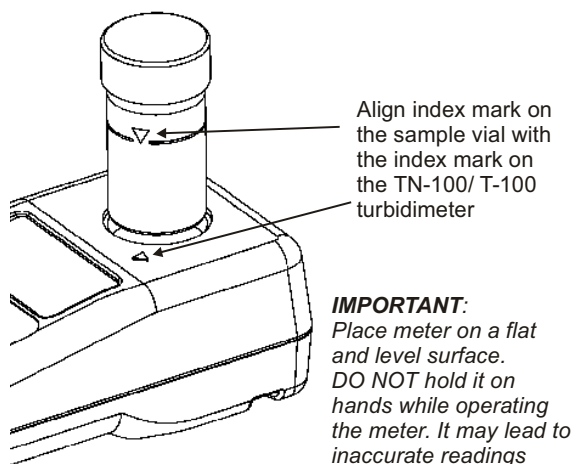

Figure 10: Align sample vial's mark with meter's index mark
3. Insert the CAL 1 standard (800 NTU) into the sample well, aligning the mark on the vial with the mark on the meter. See Figure 10 on page 12.